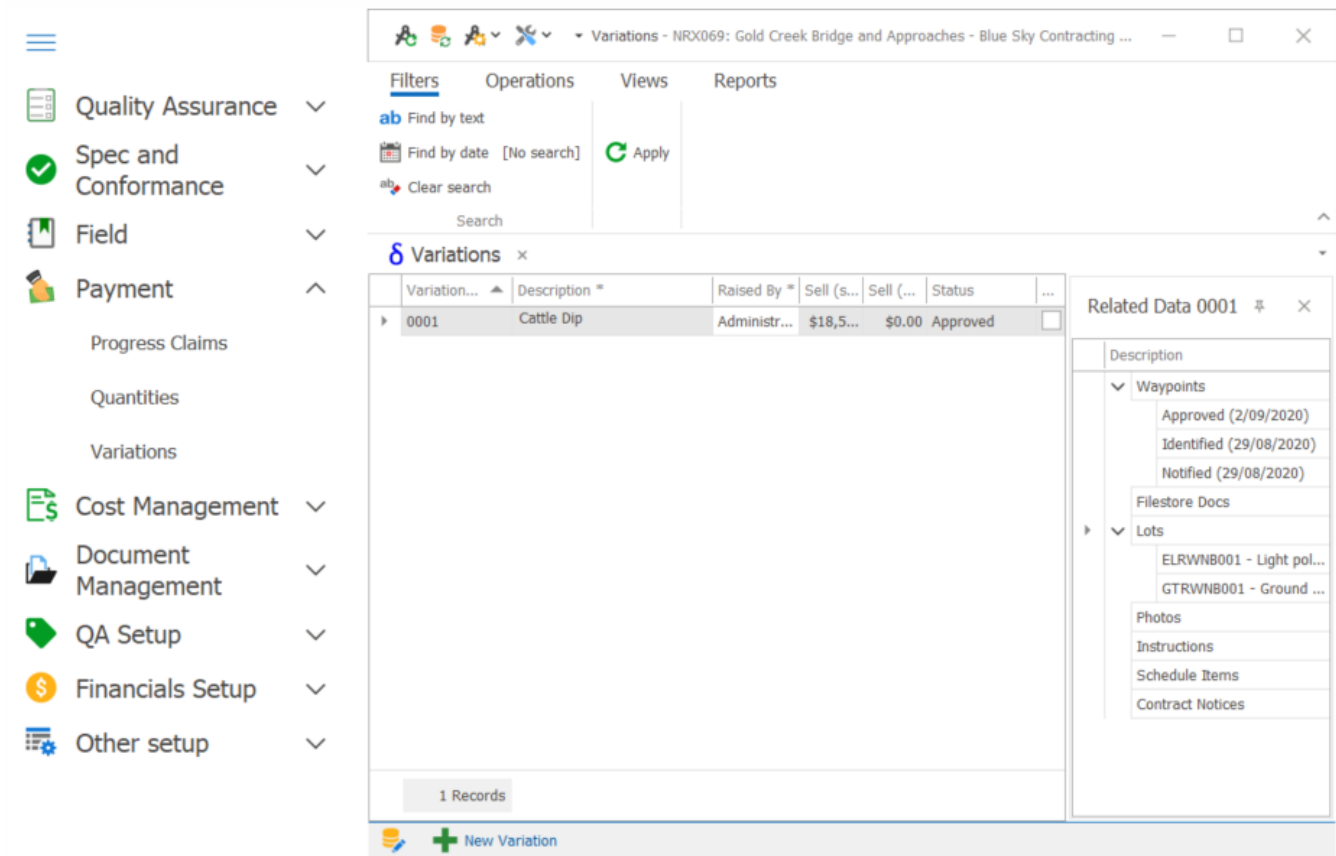

Figure 87 Variation Register showing updated Approved status
2. Select *Approved* from the Status dropdown and complete the date. Press *Update*. The Variations Register will now show the status of this Variation as *Approved* (Figure 87).